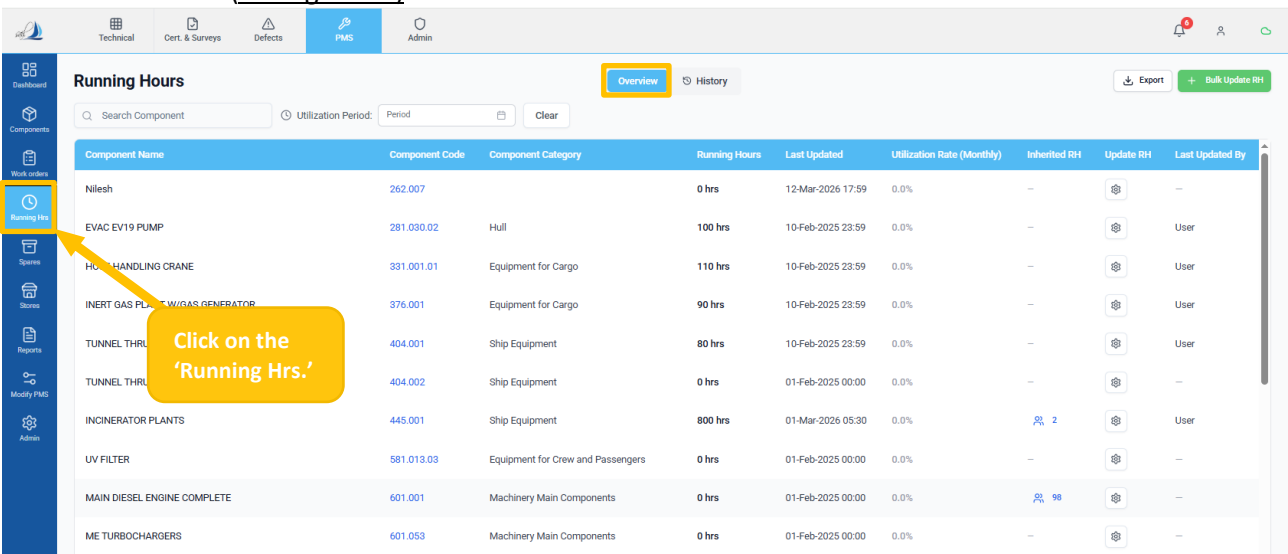

Figure 46
- Running Hours (RH) tracks the total operating hours of machinery components. Many PMS jobs are triggered by running hours rather than calendar dates — for example, 'overhaul every 4,000 hours'. Accurate RH updates are essential for the maintenance schedule to function correctly.
- Click the 'Running Hrs' sub-sub-module to access current running hour details; the default landing page is 'Overview'. (Ref Figure 46)